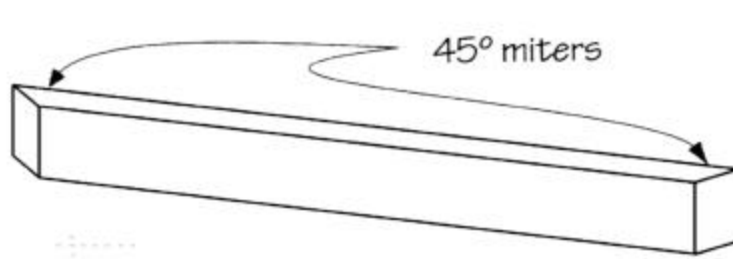
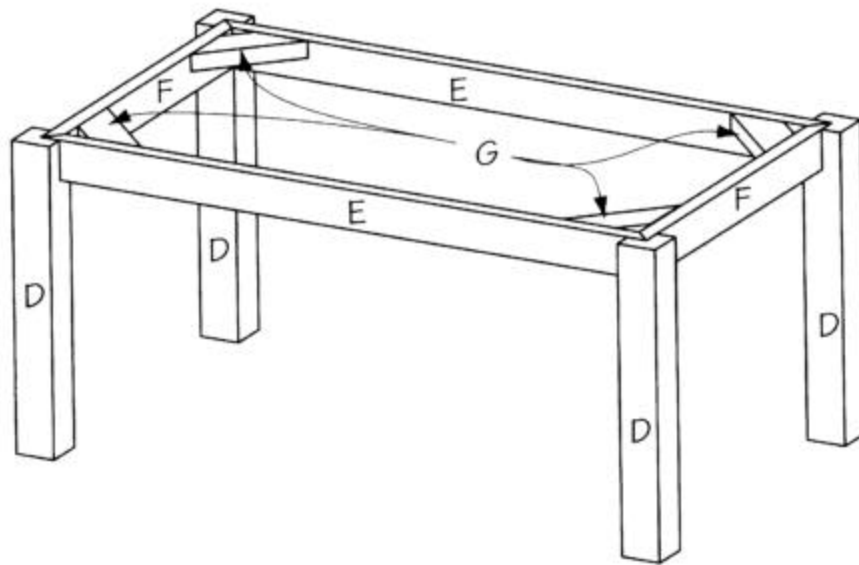

Figure 4
Figure 5
3. Cut two long side rails (E) from 2 x 4 pine, each measuring 56-1/2 inches long.
4. Cut two short side rails (F) from 2 x 4 pine, each measuring 31-1/2-inches long.
5. Set each of the four side rails (E) and (F) on edge and miter both ends of each board at a 45-degree angle, as shown in *Figure 4*.
6. This next step probably requires the assistance of a willing helper and it should be performed on a level surface. Each of the legs (D) must be connected to the side rails (E and F) and the entire assembly must be perfectly level. It is easier to make certain that you have every thing level if you perform the assembly with the legs upside down.
7. Carefully fit the ends of one long rail (E) and one short rail (F) inside the opening that you previously cut in the leg (D), matching miters (refer to *Figure 5*.) Glue and screw them in place using two 2-1/2-inch screws through each end of the side rails (E and F).
8. Repeat Step 7 to attach the remaining three legs (D) to the remaining two side rails (E and F). A word of caution: It is easy to get involved in what you are doing and forget that you are constructing a rectangular base. The two short side rails (F) must be opposite each other on the base and the two long side rails (E) must also be opposite each other.
9. Cut four corner supports (G) from 2 x 4 pine, each measuring 10 inches long.
11. Glue and screw the corner supports (G) in each of the four corners, as shown in *Figure 5*, flush with the tops of the legs (D) and the long and short rails (E and F). Use two 3-inch screws in each corner support (G), driving them into the side rails (E and F).